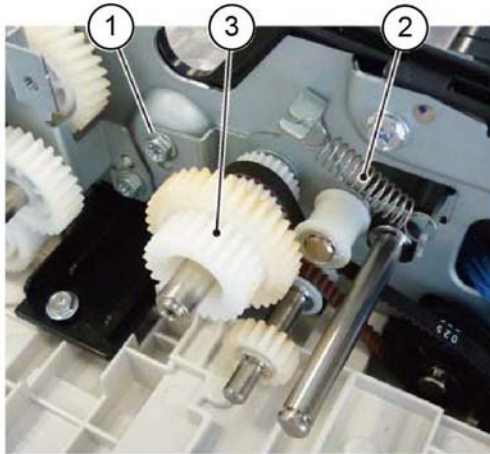

Figure 4 Gear pulley removal
9. Remove the gear pulley, Figure 4:
- a. Loosen the screw (1).
- b. Remove the tension spring (2).
- c. Remove the gear pulley (3).
2. Ensure the belt is fully tensioned before tightening the screw, refer to Figure 4.